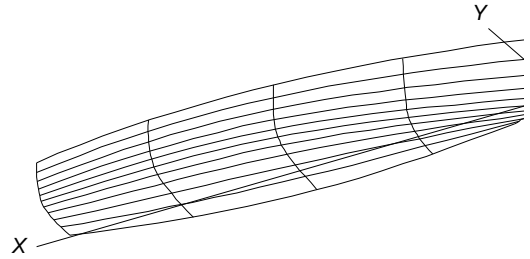

Fig. 18
- 3  or Show-Hide>Show Points to see the points that support the B-spline Curve master curves (Fig. 18).